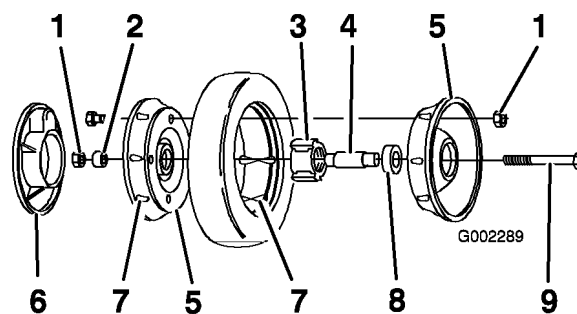

Figure 31
3. Remove the bolt, the wheel spacer, and the locknut mounting the wheel to the pivot arm (Figure 31).
4. Separate the wheel halves from the tire by removing 4 cap screws and 4 locknuts (Figure 31).
Note: If you remove the bearings from the bearing/hub assembly, remove them by pressing on the bearing spacer (Figure 31).
1. Position the tire onto one wheel half, aligning the lugs on each (Figure 31).
the hub are positioned over the flange of the hole (Figure 31).
- Place the other wheel half onto the bearing/hub assembly, aligning the wheel and the tire lugs and the mounting holes (Figure 31).
- Using 2 fully threaded screws or bolts (1/4-20 x 1.50 inch) and non-locking nuts, loosely secure the wheel halves together. Mount the screws or bolts in the opposing holes (Figure 31).
- Check the alignment of all parts and tighten the screws, alternating from side to side for a uniform fit, until the wheel halves are drawn together (Figure 31).
- Install the 2 bolts and 2 locknuts previously removed in the remaining holes in the wheel halves and tighten. Remove the 2 long screws or bolts and replace them with 2 bolts and 2 locknuts (Figure 31).
- Install the wheel to the pivot arm with the bolts, a spacer, and a locknut. Ensure that the spacer is positioned between the wheel hub and the pivot arm (Figure 31).